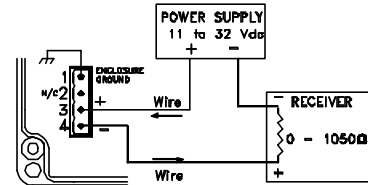

Figure 2
- B. Current Output units (PX292-XXXXDI): With the ammeter connected in the loop (see Figure 2), apply full pressure to the instrument and adjust the Span potentiometer (R2), until the output reading is 20.00mA.
This is a 2-wire 4-20mA pressure transmitter which requires an external power supply of 11 to 32Vdc to power the loop. The supply voltage should not exceed 32Vdc (see Figure 2)